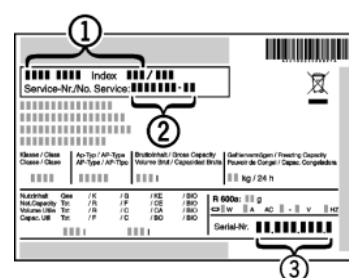

Fig. 29
- ▶ Read off the appliance name *Fig. 29 (1)*, service no. *Fig. 29 (2)* and serial no. *Fig. 29 (3)* from the model plate. The model plate can be found on the inside of the appliance on the left.